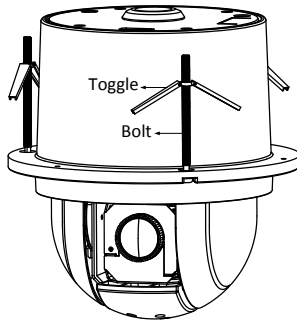

Figure 2-18 Install the Toggle Bolts
- 4). Reinstall the toggles as shown in Figure 2-18.